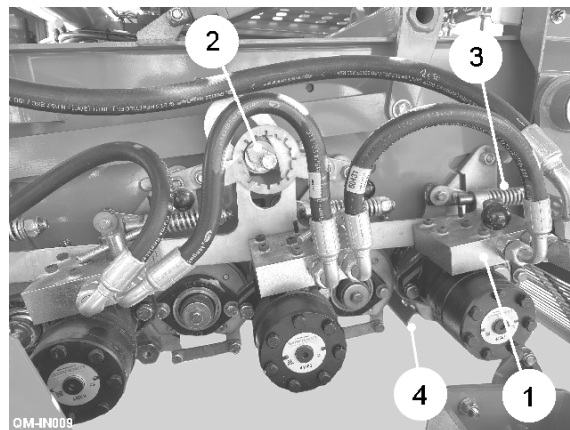

Fig. 15
The Omega Separator is positioned immediately behind the haulm extraction roller. The Omega unit consists of five scroll rollers and four clod rollers each driven by a hydraulic motor. Manual reversing valves (item 1, fig. 15) are fitted to 3 of the 4 clod rollers so that the rotation direction of the clod rollers can be set independently.
For effective haulm removal, the clod rollers will normally be adjusted to run approximately 1 to 2mm away from the tip of the scrolls. The gap is set by rotating the cam (item 2, fig. 15) on each side of the unit. Clod roller spring tension is adjusted on the spring rod nuts (item 3, fig. 15). All adjustments must be made evenly on both sides.
Each clod roller is fitted with a scraper (item 4, fig. 15) which needs to be closely adjusted to remove loose soil from the rollers.